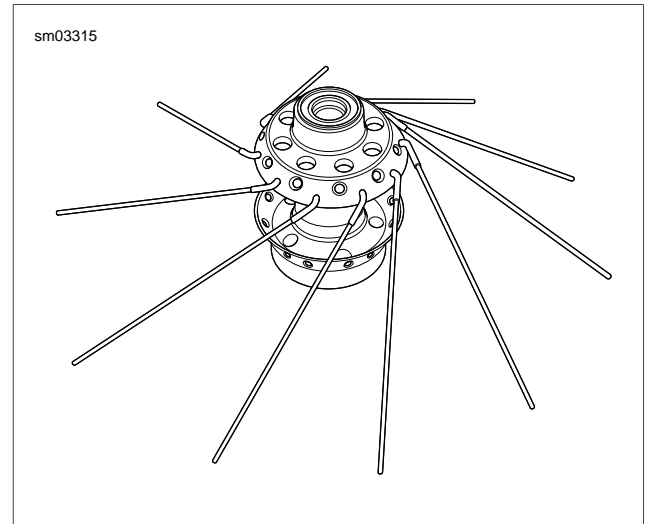

Figure 2-44. Spokes in Lower Row
- See Figure 2-44. Place the hub on table with brake disc side (wide flange) down. Insert a spoke in each hole of the **lower** row. Angle spokes clockwise.